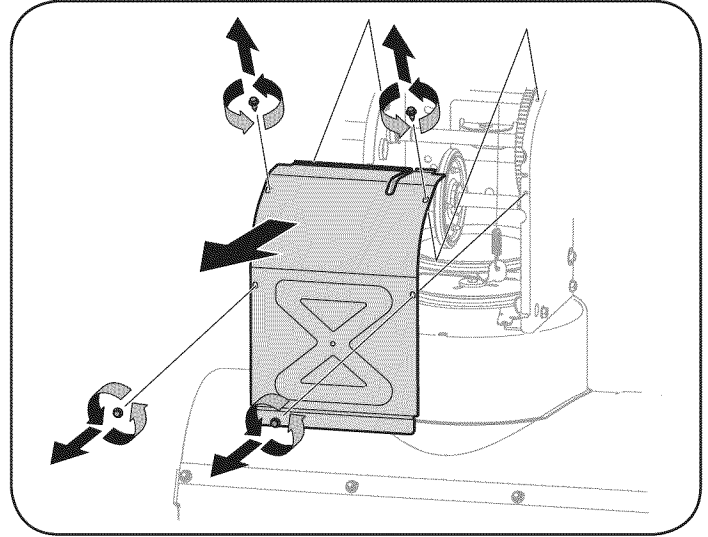

Figure 33
6. Remove the frame cover from the underside of the snow thrower by removing the self-tapping screws which secure it. See Figure 33.
3. Remove the frame cover from the underside of the snow thrower by removing the self-tapping screws which secure it. Refer to Figure 33.